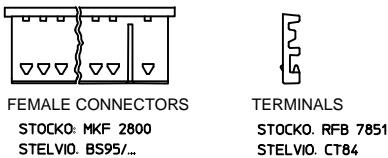

Fig.1
- connectors and terminals for wiring (see Fig.1);